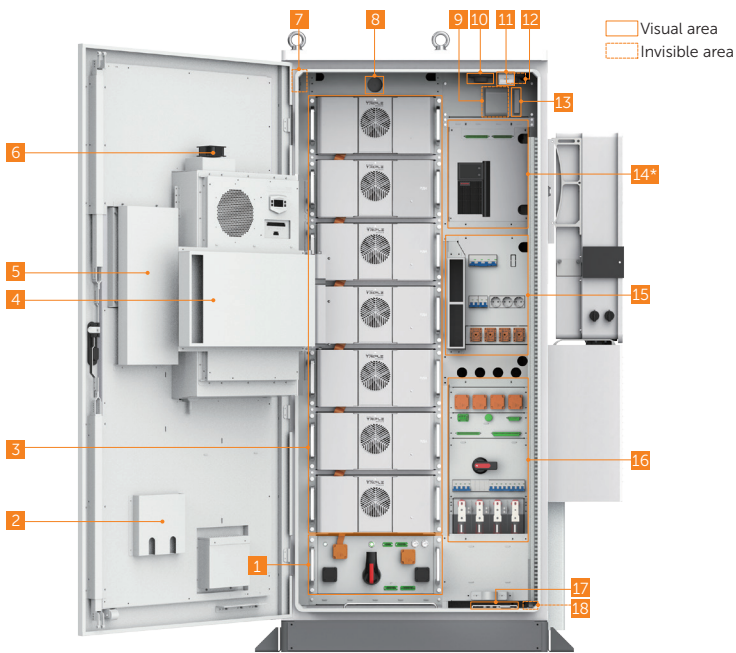

Figure 2-5 Parts description (in the opened state)
- The mark "*" indicates that parts in the front view (Figure 2-5) cannot be fully seen.